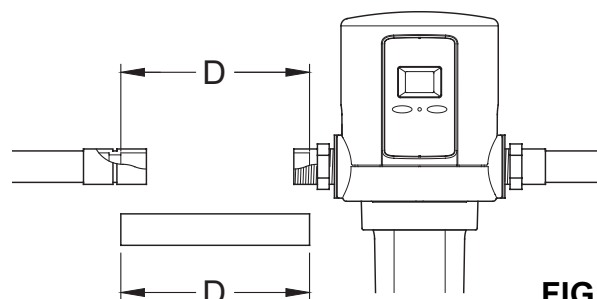

FIG. 16
7. Turn a sweat adaptor fitting into the other side of the filter head and hand tighten only. Using a tape measure or ruler, measure the distance "D" as shown in Figure 16. Mark this same dimension on a length of copper pipe. Cut the length of pipe.